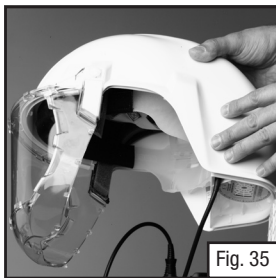

Fig. 35
3. Gently turn the headgear right-side up (Fig. 35). Sufficient airflow will retain the indicator in position. If the airflow will not retain the indicator, replace the main filter/cartridge as described in "Assembly" section. If an adequate airflow is still not maintained, refer to "Troubleshooting" section in these *User Instructions* and do not use the unit.